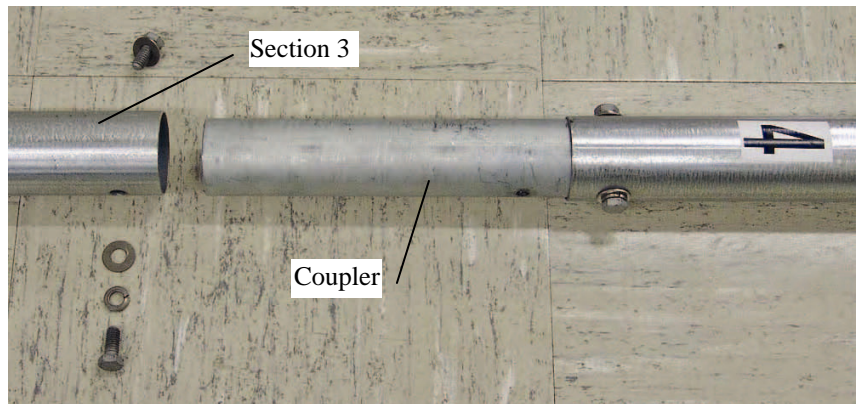

FIGURE 2.2-12. Mast Section 4 Ready to be Installed in Mast Section 3
Step 11: Slide coupler end of Section 4 into the top of Section 3, and secure with remaining components from hardware bag (see Figure 2.2-12).